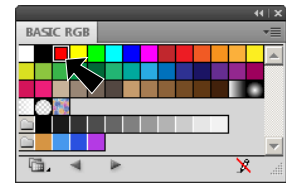

Fig. 38
Step 3. Click the **Red** swatch in Swatch panel, **Fig. 38**.